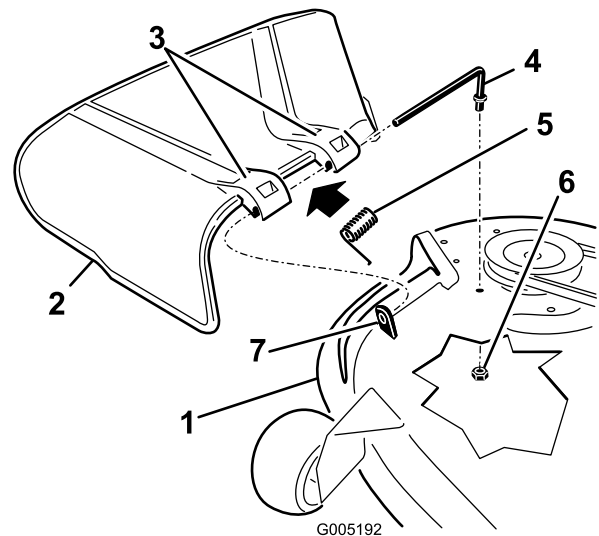

Figure 46
1. Locate items shown in Figure 46.
2. Remove the nut (3/8 inch) from the rod under the mower (Figure 46).
3. Slide the rod out of the short stand-off, internal lock washer, spring, and grass deflector (Figure 46). Remove the damaged or worn grass deflector.
4. Replace the grass deflector and internal lock washer (Figure 46).
6. Place the spring on the rod, with end wires down, and between the grass deflector brackets. Slide rod through second grass deflector bracket and internal lock washer (Figure 46).
7. Insert rod at front of grass deflector into short stand-off on deck. Secure rear end of rod into the mower with a nut (3/8 inch) (Figure 46).